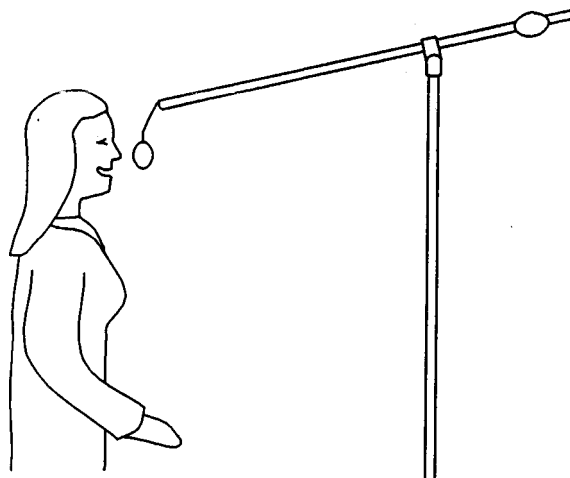

Fig. 1. Miking a lead vocal with a GLM-100.
***Vocals:** hung from a boom with a foam windscreen taped around the mic, 4 inches from the singer's mouth (Fig. 1).